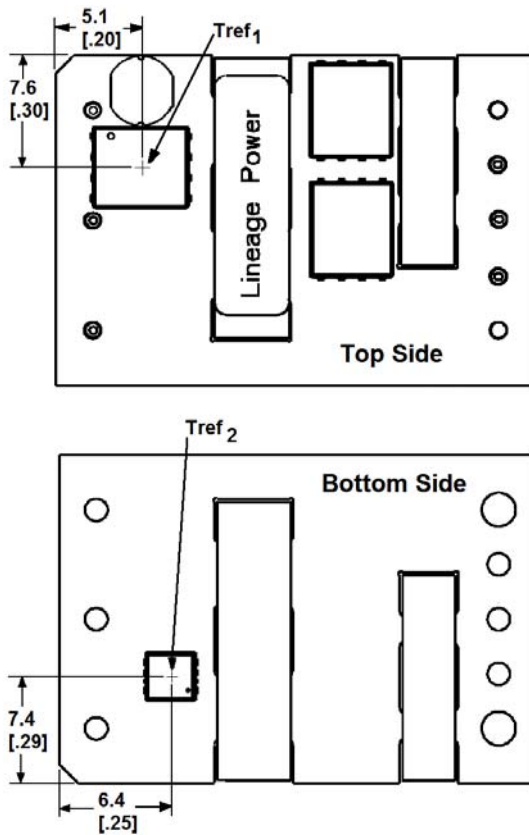

Figure 19. Tref_x Temperature Measurement Location.
To provide protection under certain fault conditions, the unit is equipped with a thermal shutdown circuit. The unit will shutdown if the thermal reference point T_{ref} (Figure 19), exceeds 128-133°C (typical) depending on T_A and airflow, but the thermal shutdown is not intended as a guarantee that the unit will survive temperatures beyond its rating. The module can be restarted by cycling the dc input power for at least one second or by toggling the remote on/off signal for at least one second. If the auto-restart option (4) is ordered, the module will automatically restart upon cool-down to a safe temperature.
The thermal reference points, $T_{ref,x}$, used in the specifications are shown in Figure 19. For reliable operation, the temperature of both T_{ref} points should not exceed 125°C.